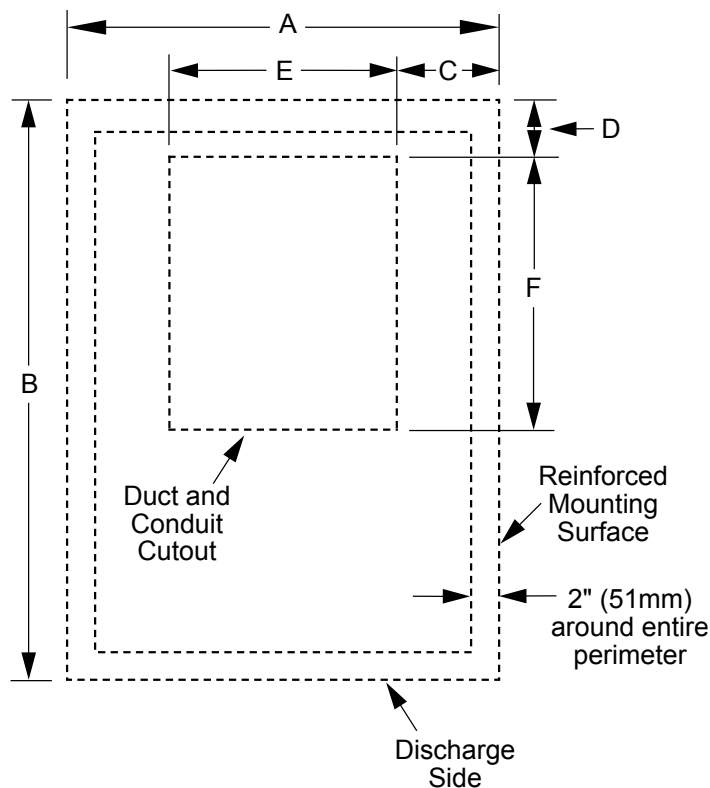

Figure 1:
- The mounting location needs to allow for a cutout under the unit for the duct and wiring/conduit to pass through the wall or roof into the blower assembly. See Figure 1.
- Select a location that can properly support or can be reinforced to support the weight of the blower (see weight table below). The unit requires a mounting surface around the perimeter of the base of the unit 2" in width and thick enough to accommodate the 8, 2 1/2" long mounting screws that are provided with the unit. All contact surfaces between the blower and any mounting surfaces must be solid and at right angles. See Figure 1 for the required mounting surface dimensions.
- Make a cutout in the center of the mounting location according to Figure 1.